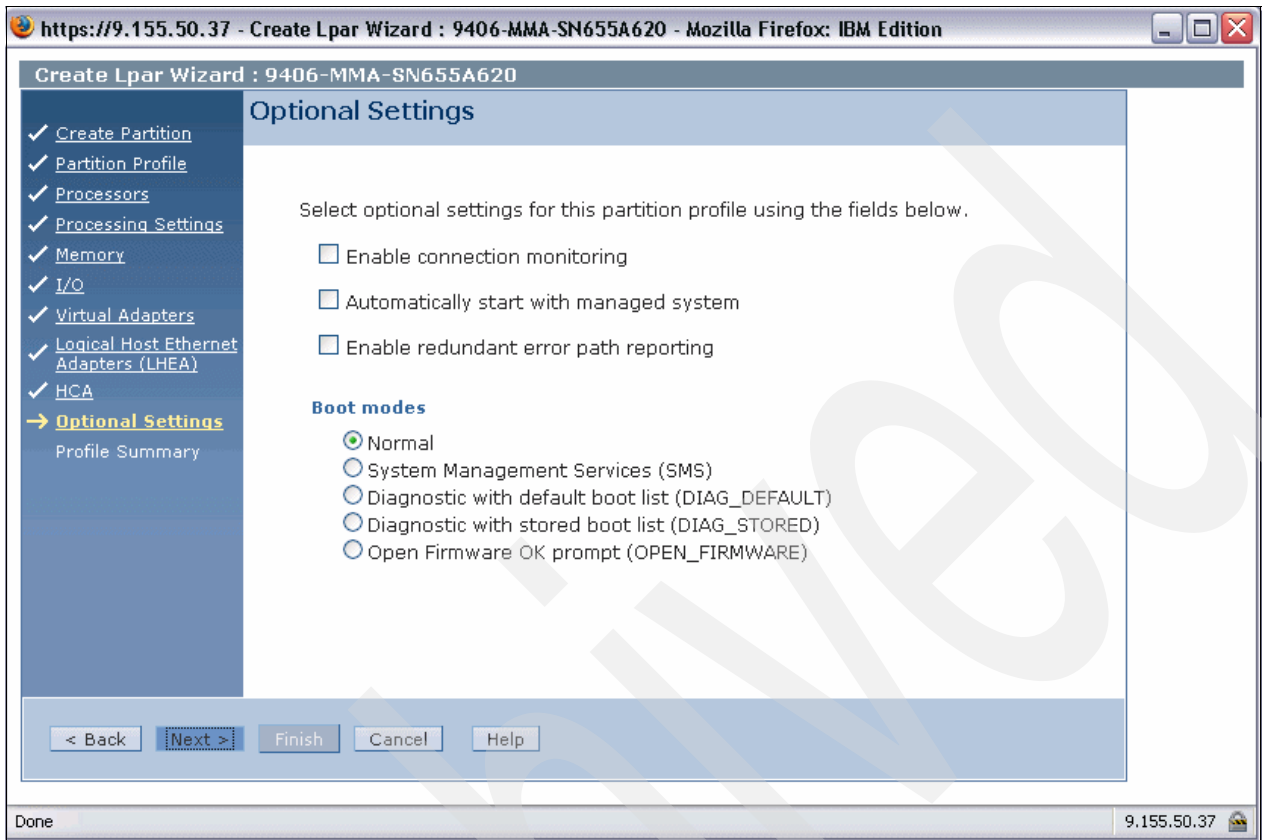

Figure 6-19 Create LPAR Optional Settings dialog
17. In the Optional Settings dialog shown in Figure 6-19 we accept the default Normal setting for the boot mode and select **Next** to proceed.